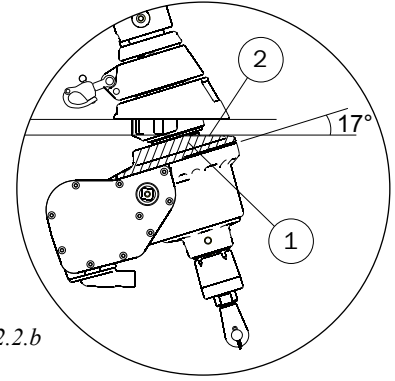

Fig. 3.2.2.b
The black collar ① (fig. 3.2.2.b) on the 300TD-model motor unit is chamfered ② to achieve an F-measurement of 20 mm, see table 3.2.2.a.